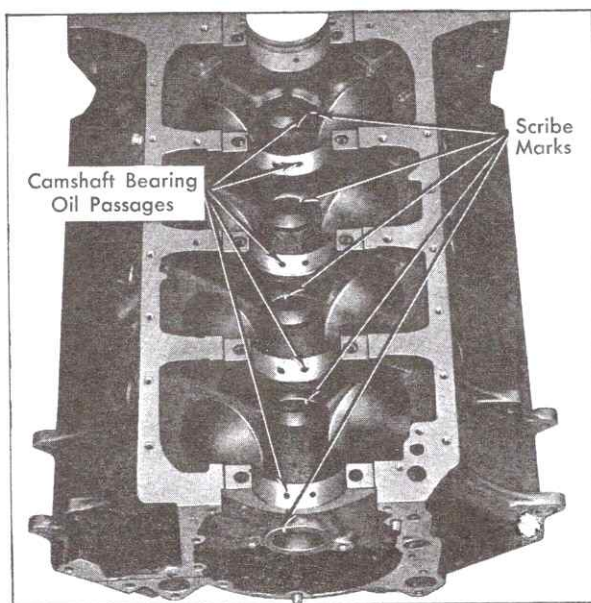

Fig. 6-152 Camshaft Bearing Oil Passages
2. Locate center of oil hole passage in each bearing bore and scribe a reference mark on front face of each bore, Fig. 6-152.